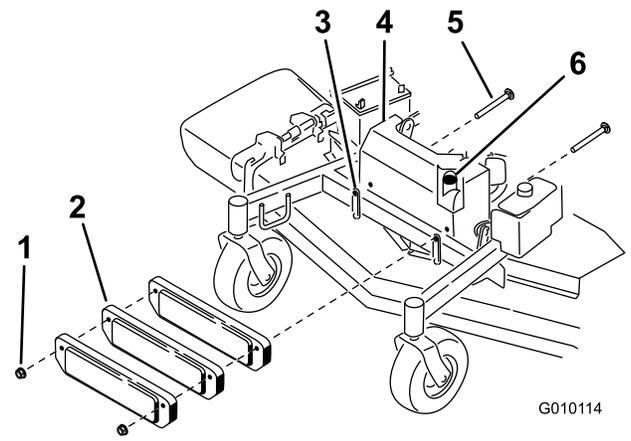

Figure 1
Weights are installed to improve handling, balance and improve performance. Weights can be added or removed to create optimized performance under different mowing conditions and for operator preference (Figure 1).
5. Remove the 4 muffler guard bolts. Adjust the guard position as needed to remove the bolts (Figure 1).
7. Install the weight onto the bolts with the clamp bar in place behind the weight (Figure 1).
9. Tighten the four nuts and ensure the muffler exhaust tube is centered in the muffler guard opening (Figure 1).